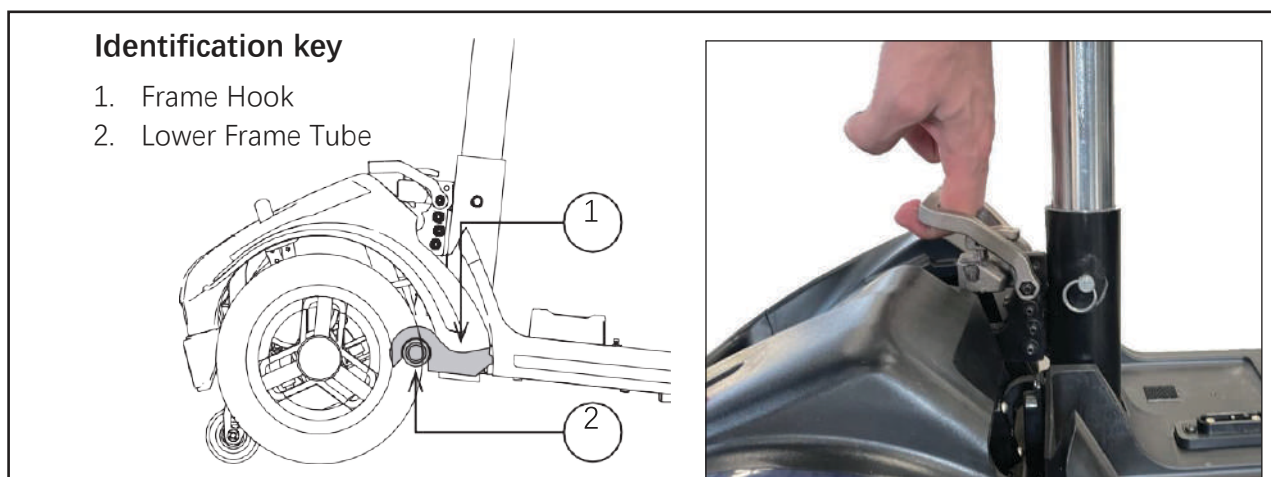

Figure 8. Frame Release Lever
ATTENTION – Before attempting assembly, tilt the rear half of the scooter slightly back on the anti-tip wheels as shown in figure 8.
3. Slowly separate the two parts of the scooter. See figure 8.
1. Use the front frame release lever to lift the front frame as you align the framehooks of the front frame with the rear frame tube of the rear frame. See figure 8.
2. Once the frame hooks are over the rear frame tube, lower the front frame and pivot the rear frame simultaneously. This will engage the frame lock-up automatically. See figure 8.